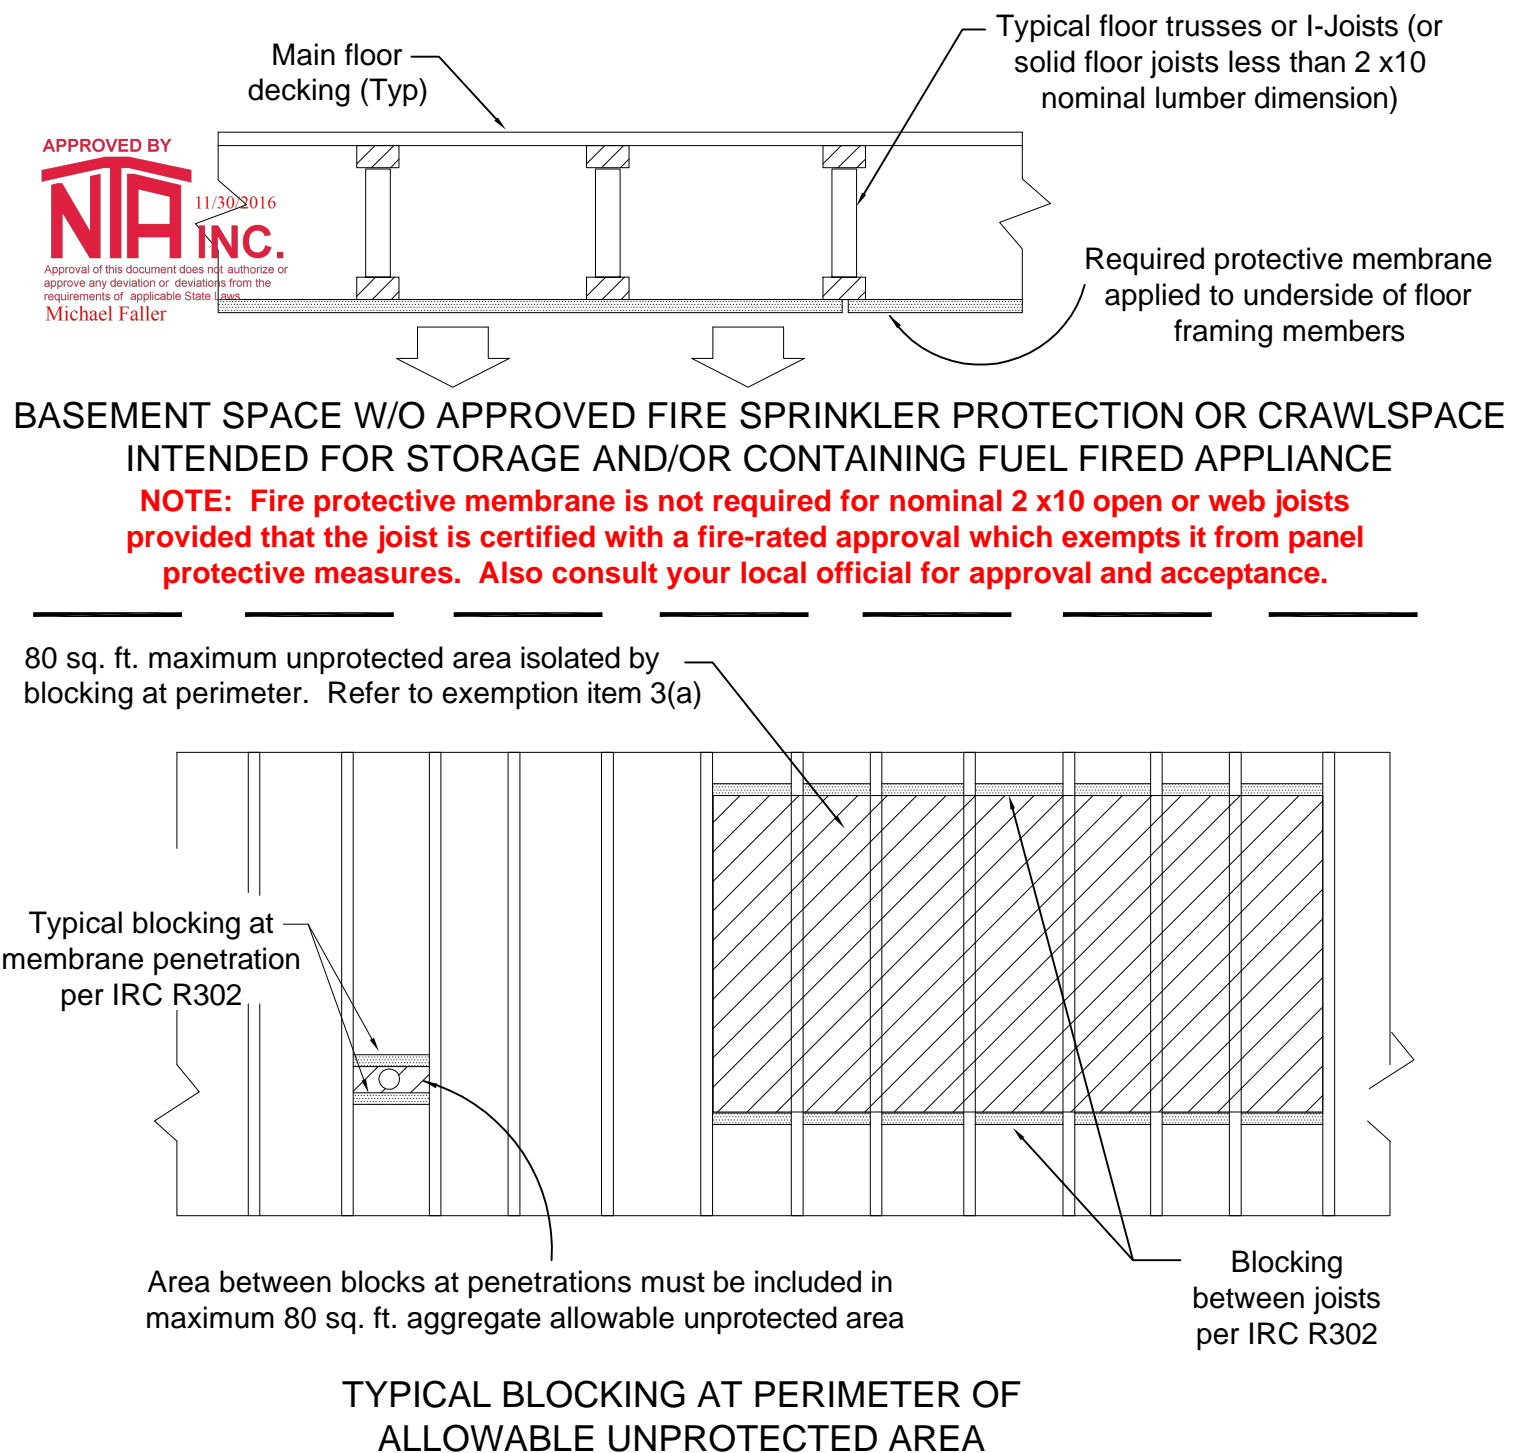

Fig. 9.4 - Typical Fire Protective Membrane Measures for Floor Assemblies (When applicable)
3. Even when the floor is determined to be subject to the fire protective membrane, defined portions of floor assemblies which are subject to the protective membrane can be exempted when complying with the following (See also Fig. 9.4):
4. Wood floor assemblies using dimensional lumber or structural composite lumber equal to or greater than 2x10 nominal dimension or other approved floor assemblies demonstrating equivalent fire performance are exempt from the membrane requirement. For instance: If the home floor is framed completely with solid lumber floor joists of at least 2x10 nominal, then the protective membrane is not required. However if the floor system is constructed with web floor trusses of any dimension, or if solid lumber joists are less than nominal 2x10 lumber, the floor fire protection measures do apply unless the assembly is exempted by the conditions stated in items 1, 2, or 3 above. Refer to Fig. 9.4 for illustrations.